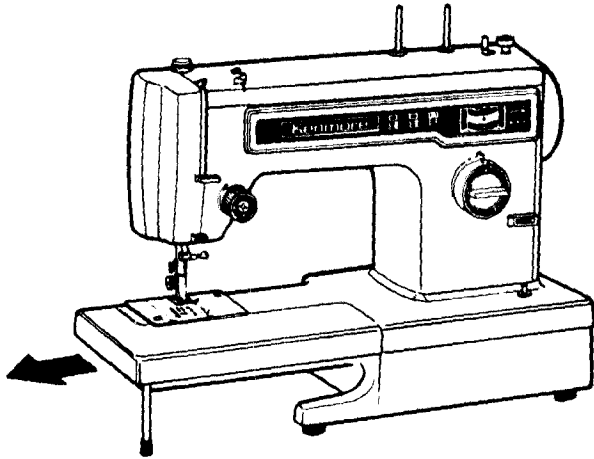

Fig. 1
1. Remove the extension table from the machine by pulling it to the left. (Fig. 1, 2)